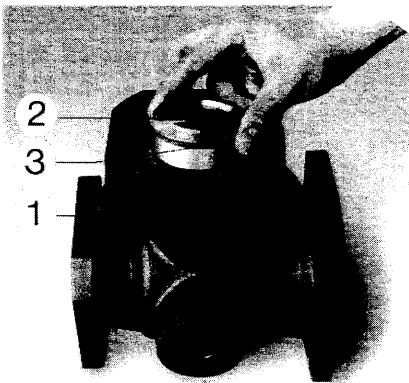

FIG. 11
Install the connection unit — boiler/cylinder flow (1) check valve (2). Wrap enclosed sealing cord (3) around the check valve underneath the support rim, see fig. 11.
Captions to figs. 11 and 12